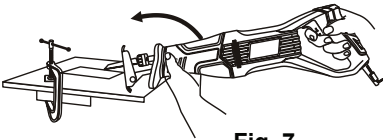

Fig. 7
2. Clamp the workpiece to a workbench or table (Fig. 7).